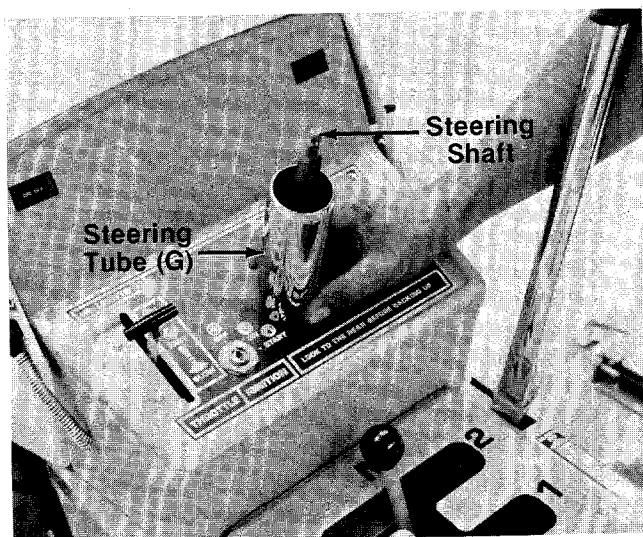

FIGURE 2.
1. Place the steering tube (G) over the steering shaft. See figure 2.